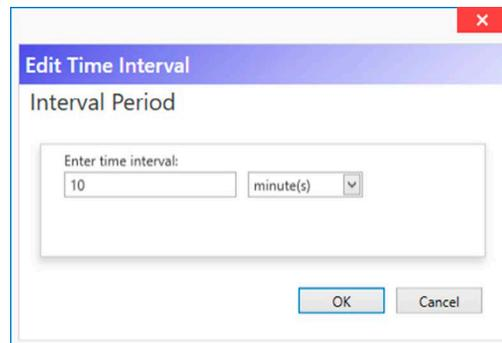

Figure 6.11—Edit Time Interval dialog
- **Interval Period.** By default, interval logs are recorded hourly. Click Edit to change the interval period. You may configure this setting in hours, minutes, or seconds. For example, you can enter "10" and "minutes" to log flow data every 10 minutes (Figure 6.11).